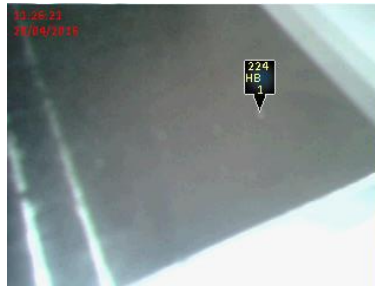

Figure 2.50 - Marking of the measuring point
6. After saving the photo using the navigation keys <  >, <  >, <  >, <  > specify the measurement location in the picture (Fig. 2.50), Scale and the value of hardness, as well as the date and time of measurement (creating a snapshot) is indicated automatically. To end the photo fixation and save the measurement in the archive, press <  >.